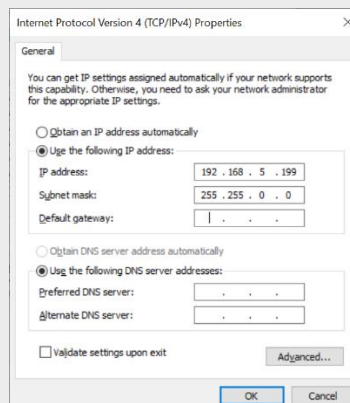

Fig12. Change the host IP address
4. in compliance with Fig 12. As shown, go to the Internet Protocol Version 4 (TCP / IPv4)> attribute.